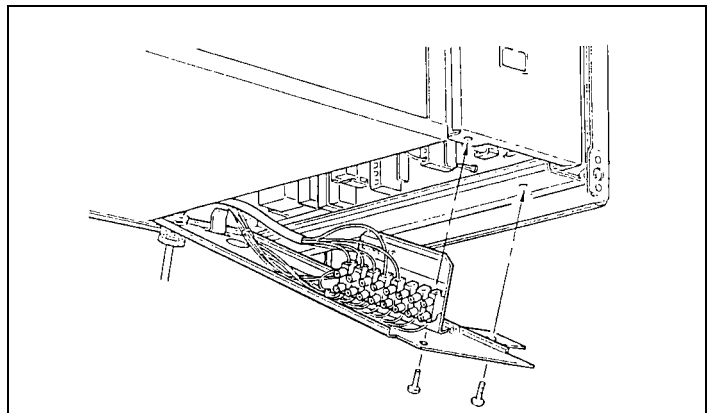

FIG. 22 REMOVING CONTROL SECURING SCREWS
- b) Remove screw retaining access door on under side of boiler. FIG. 22.
- c) Remove screw retaining control front panel and tray. FIG. 22.